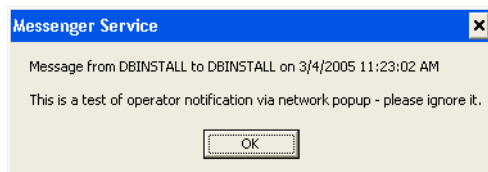

Figure 7.6 Messenger Service Window
9. Click the **Test** button to make sure a Messenger Service window pops up (Figure 7.6).